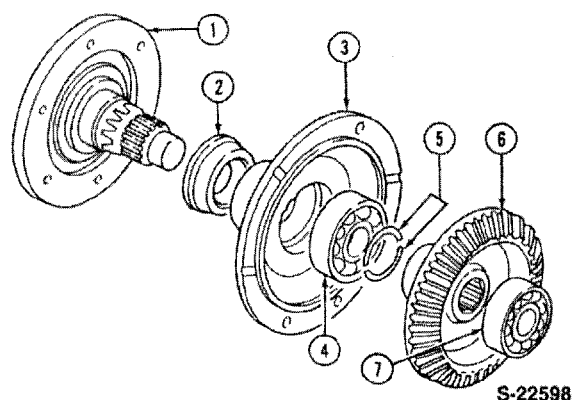

Figure 32
1. Using a suitable driver, install a new oil seal (2) in the bevel gear case cover (3), Figure 32.
2. Position the wheel shaft outer bearing (4) in the cover.
4. Position the two piece locking ring in the shaft groove, Figure 32.